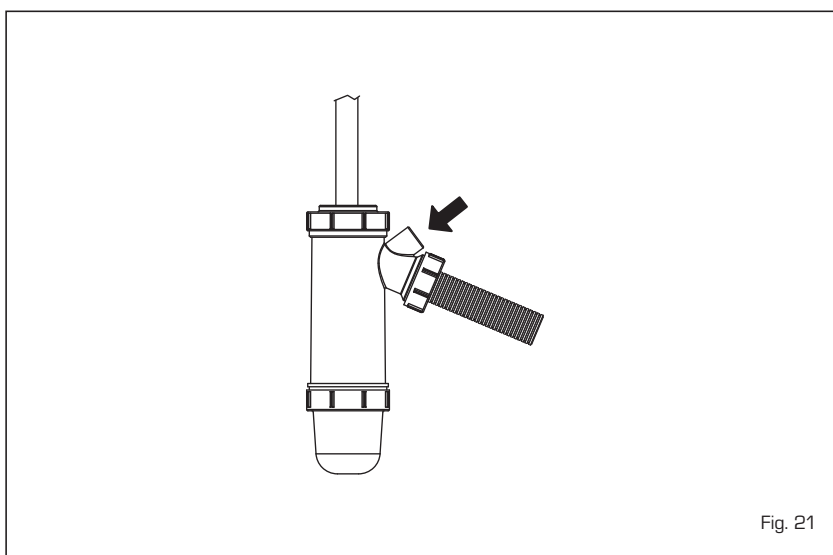

Fig. 21
**During maintenance operations the authorised technician must check that the syphoned drip is full of water (this check is of importance particularly when the generator has been out of use for a long period of time). Filling is done via the special opening (fig. 21).**